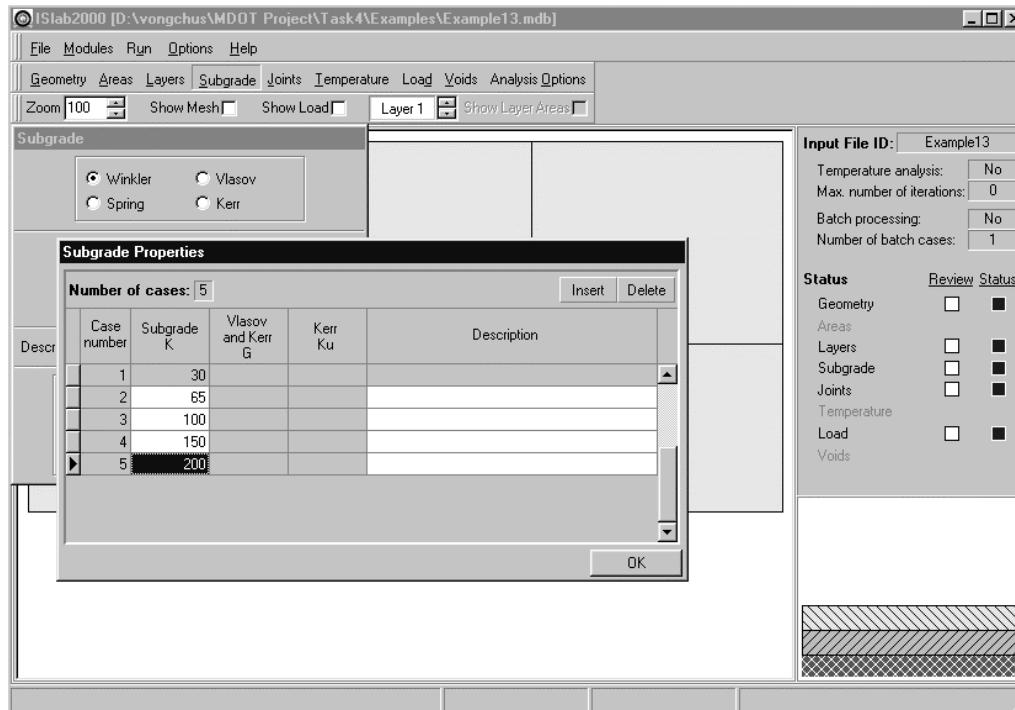

Figure E13-3: Edit Inputs for the Subgrade Module (continued)
- Step 3: On the layers panel, select **Batch**, and then click **Edit Batch** to open the subgrade properties panel (see Figure E13-3).